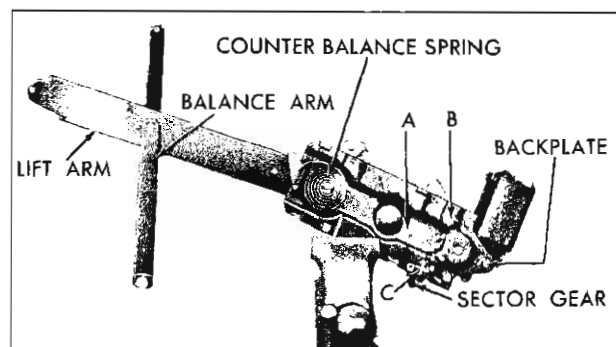

Fig. 31—Door Window Regulator and Motor Assembly
- Remove front door electric window regulator assembly from door as previously described and clamp it in a vise (fig. 31).
- Remove motor attaching bolts and remove motor assembly from regulator (fig. 31).